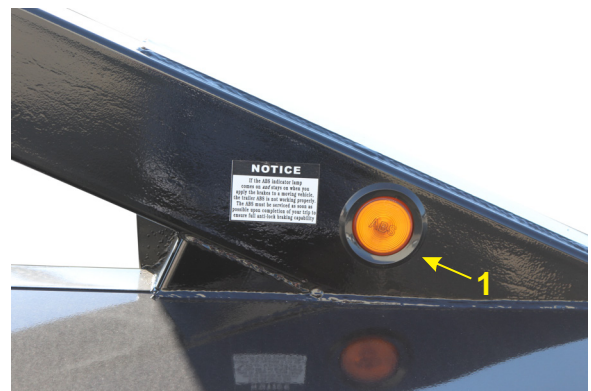

Figure 2-3 – Trailer ABS Light
- If the amber ABS light (1, Figure 2-3) located on the driver's side rear trailer frame turns ON and stays ON, immediately have the trailer brake system serviced. **NOTE:** When the truck is started this light will briefly flash ON.